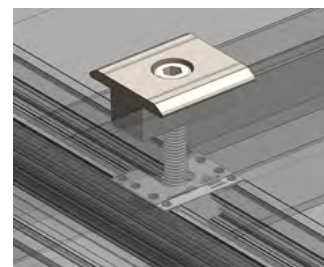

Figure 8
- Step 3: Loosely place the next framed PV Module into the other side of the Inter Clamp and Grounding Clip as shown in Figure 8.